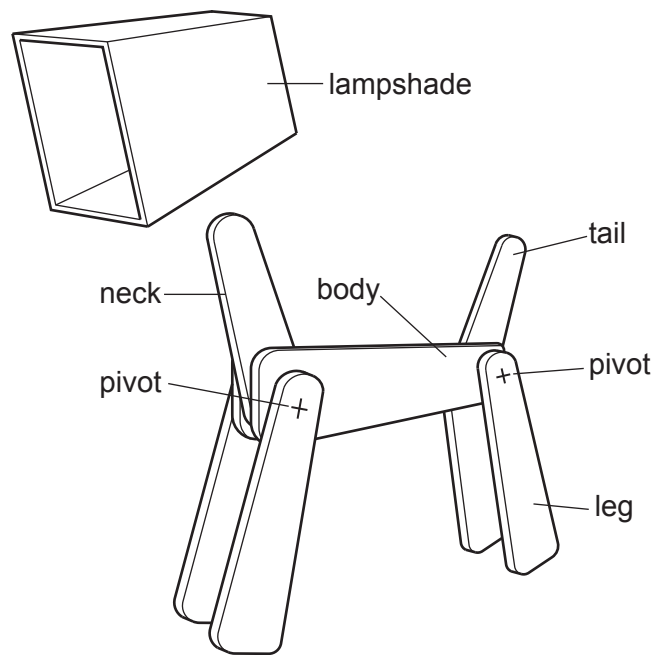

Fig. 13.1
- 13 Fig. 13.1 shows an incomplete design for a novelty adjustable lamp made from hardwood. The lampshade has been removed to show the neck of the lamp.